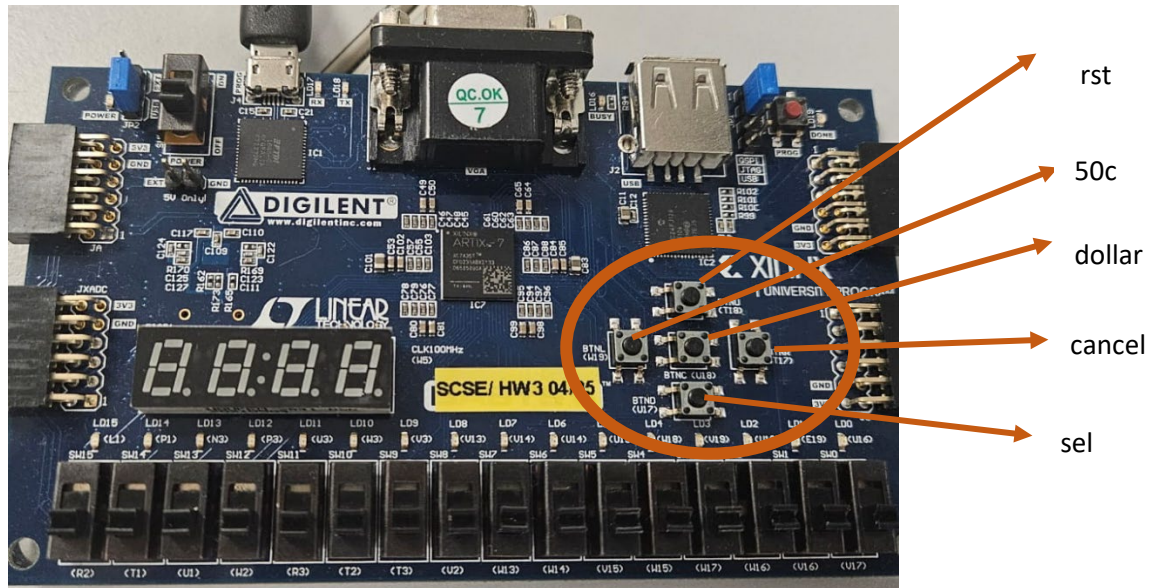

Fig. 4: Basys3 FPGA board showing the pin mappings for inputs
3. You will need to add *fifty* (*Pin W19*), *dollar* (*Pin U18*), and *cancel* (*Pin T17*) to the 3 horizontal push button switches. Refer to Fig. 4.